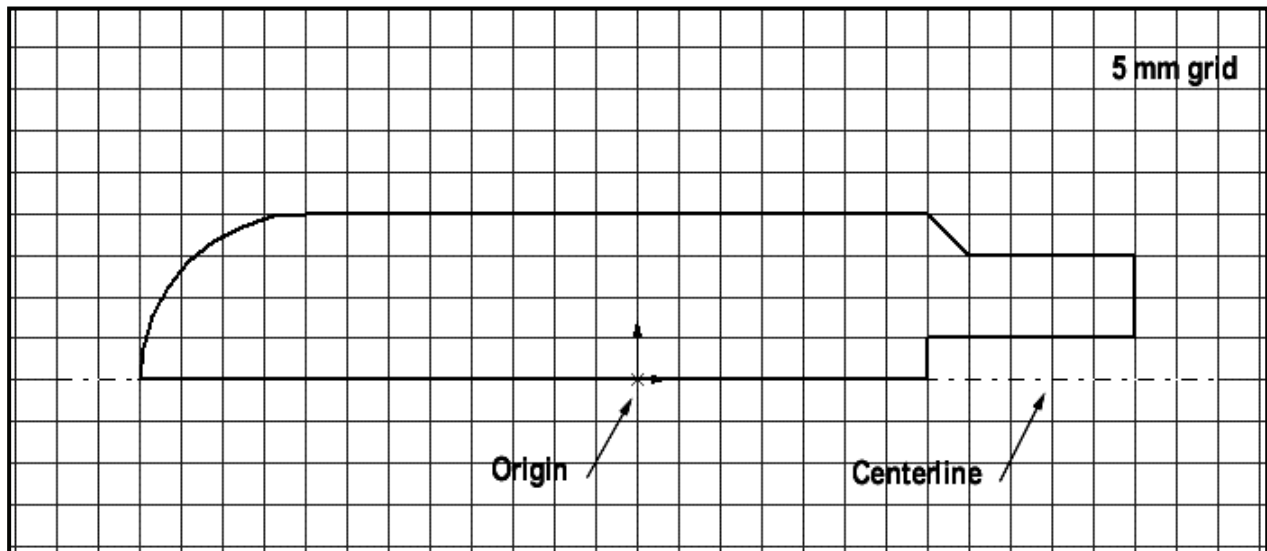

Figure 1-37. The 2-D Sketch for the Machine Handle.
In the previous exercises, the parts were designed using English units (inches). Metric, or System International (SI), units are also common in engineering practice. In this exercise 1.4, the Machine Handle will be designed using millimeters as the basic units (see **Figure 1-37**). In addition, because of the round symmetry of the machine handle, you will create a **Base Revolve** using the 2-D sketch rather than a base extrude.
Pick a **Front** plane and click the **Sketch** icon to start your sketch. The screen area should show a metric grid with spacing every 5 millimeters. You may need to **Zoom** in. Using the **Centerline**, **Line**, and **Centerpoint Arc** tools, sketch the enclosed 2-D profile shown in **Figure 1-37**.